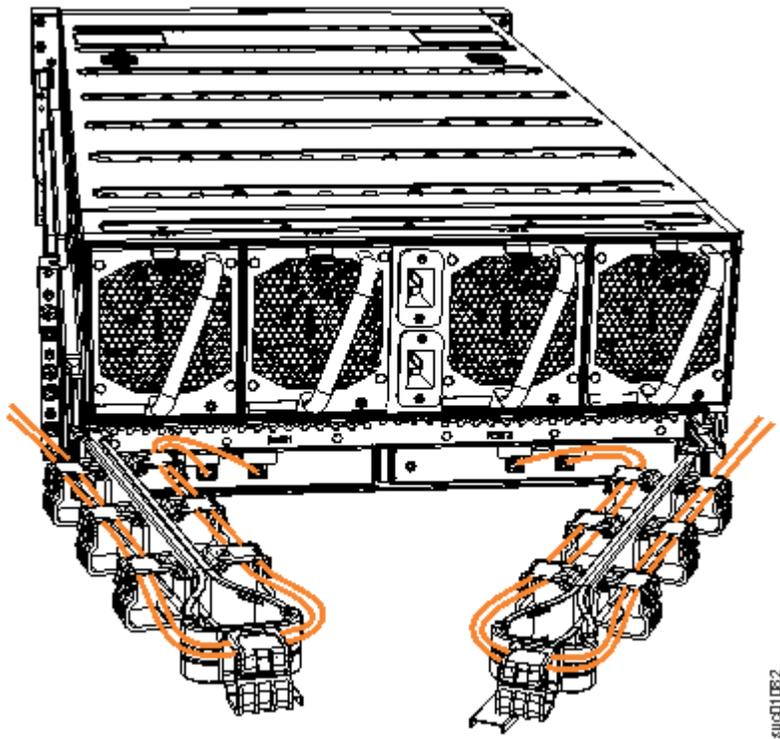

Figure 99. Example of SAS cables routed through the cable management arms
8. Route the SAS cables through the cable management arms, as shown in Figure 99 on page 89.